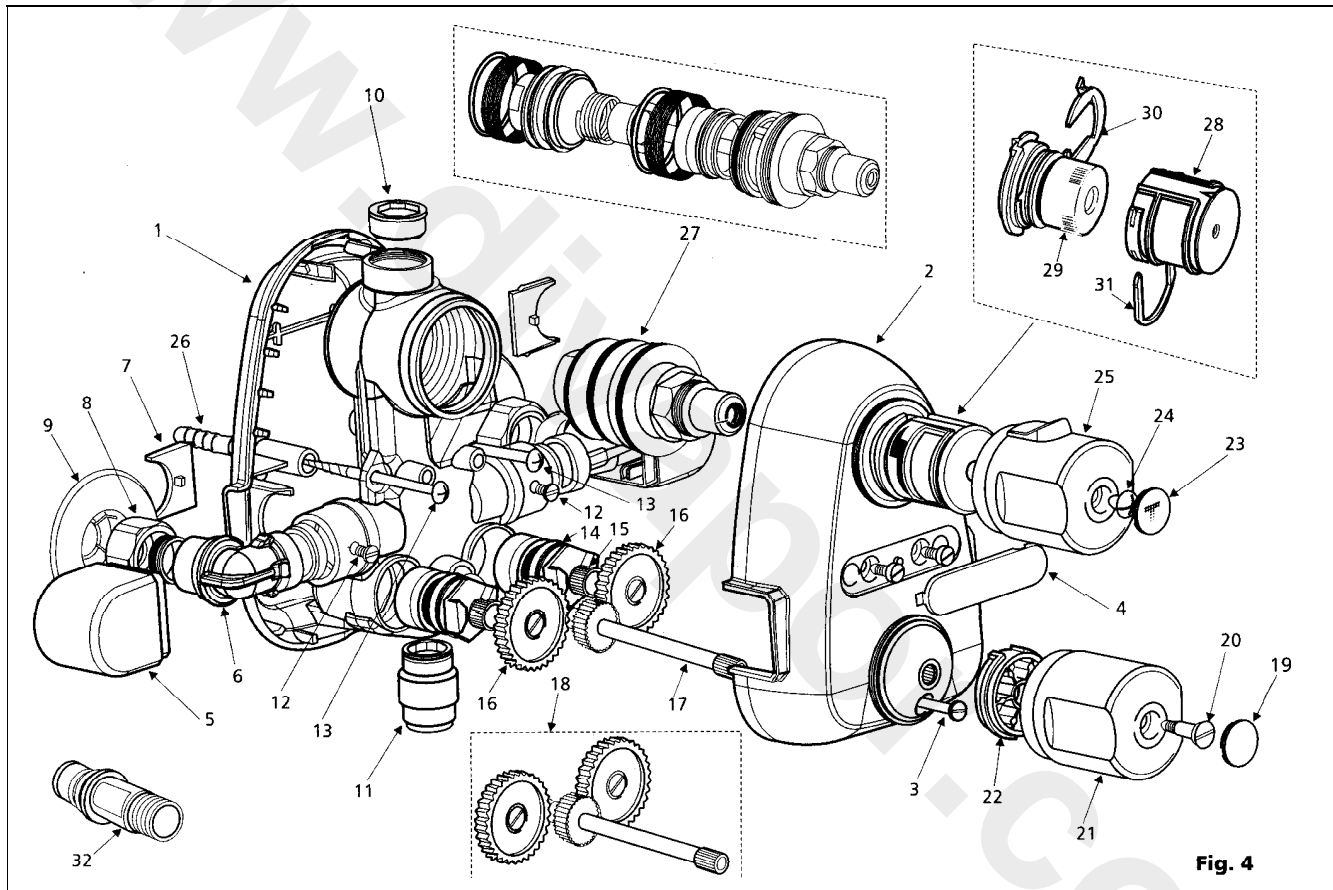

Fig. 4
Hot and cold connections are 15mm compression and the supply pipework should be 22mm copper tube, converting to 15mm close to the valve. Supplied with the shower mixer are two 90° x 15mm compression elbows (6 - Fig. 4) for connecting hot and cold supplies. The shower elbows are pre-fitted to accommodate return to wall pipework, although these are adjustable to cater for rising or falling supply pipework. Two decorative escutcheon rings are provided for return to wall pipework installation.
1. The Trevi Therm exposed shower mixer is delivered ready for installation as Diagram A (Fig. 5) with the temperature handle at the top and the volume control at the bottom. The alternative configurations B and C are achieved by repositioning the compression elbows (6 - Fig. 4) to cater for rising or falling hot and cold supply pipework.
2. Decide on the configuration required and if either B or C (Fig. 5) are chosen, remove handles and front cover, remove elbow covers (5 - Fig. 4). Release grub screws (12 - Fig. 4) and rotate compression elbows to position required.
Tighten grub screws. Remove cover access plate (4 - Fig. 4). Connect fitting to the pipework, place fitting on the wall and mark position of screw holes for fixing screws (13 - Fig. 4).
Disconnect fitting, add escutcheon rings (9 - Fig. 4) to hot and cold pipework (built-in supply pipework only) and drill and plug wall. Screw fitting to the wall and refit cover access plate (4 - Fig. 4).
In the event of poor flow or water temperature check the thermostatic control cartridge (27 - Fig. 4). The filter screens could be clogged and require cleaning. Remove the cartridge and carefully wash under a tap.